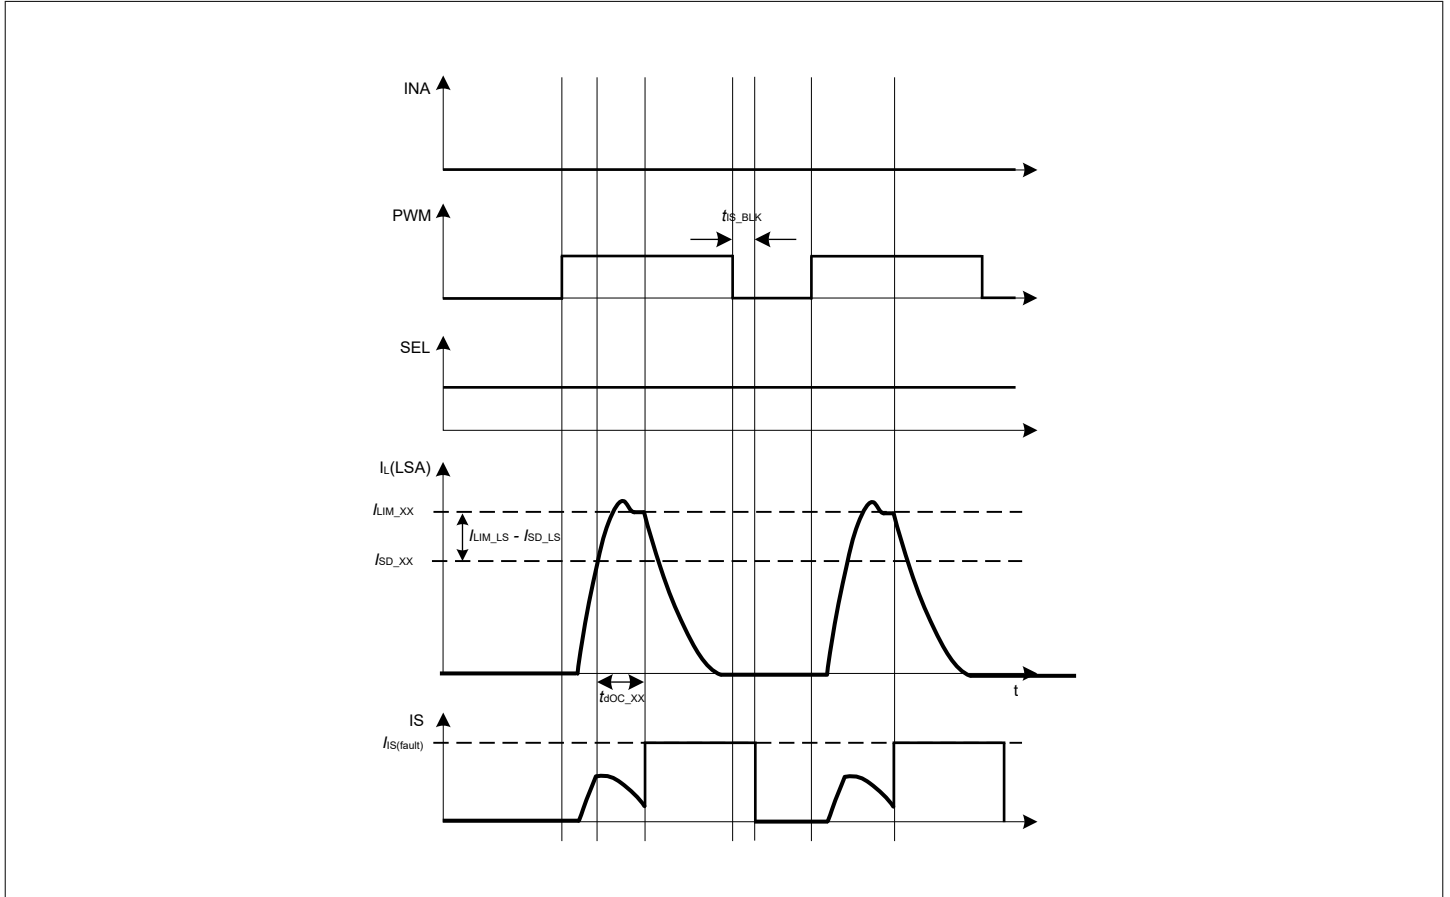

Figure 14 Recovery of short circuit and overcurrent protection by input pattern
- Switch on the MOSFETs by input pulse (PWM, INA and INB) as shown in Figure 14
As shown in Figure 14 the recovery will be controlled by the input patterns.